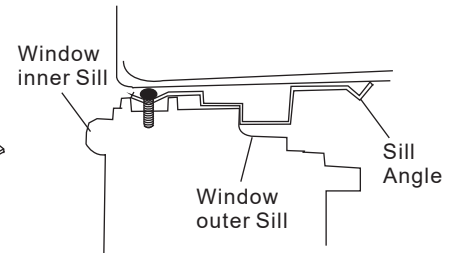

Fig.12
- Place cabinet in window with bottom sill angle firmly seated over window sill as shown. Bring window down temporarily behind top angle to hold cabinet in place (Fig.12).
Step 2. Remark a line on the provided R1 insulation panel according to a length 1/8" (3mm) less than the measured width in step 1, then cut the R1 insulation panel along the line (Fig. 12).